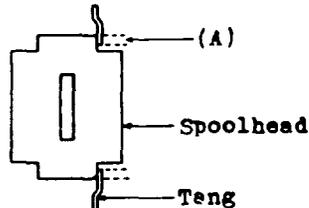

Fig. 4
2.07 Spring Tang Position - Fig. 4 (A) -